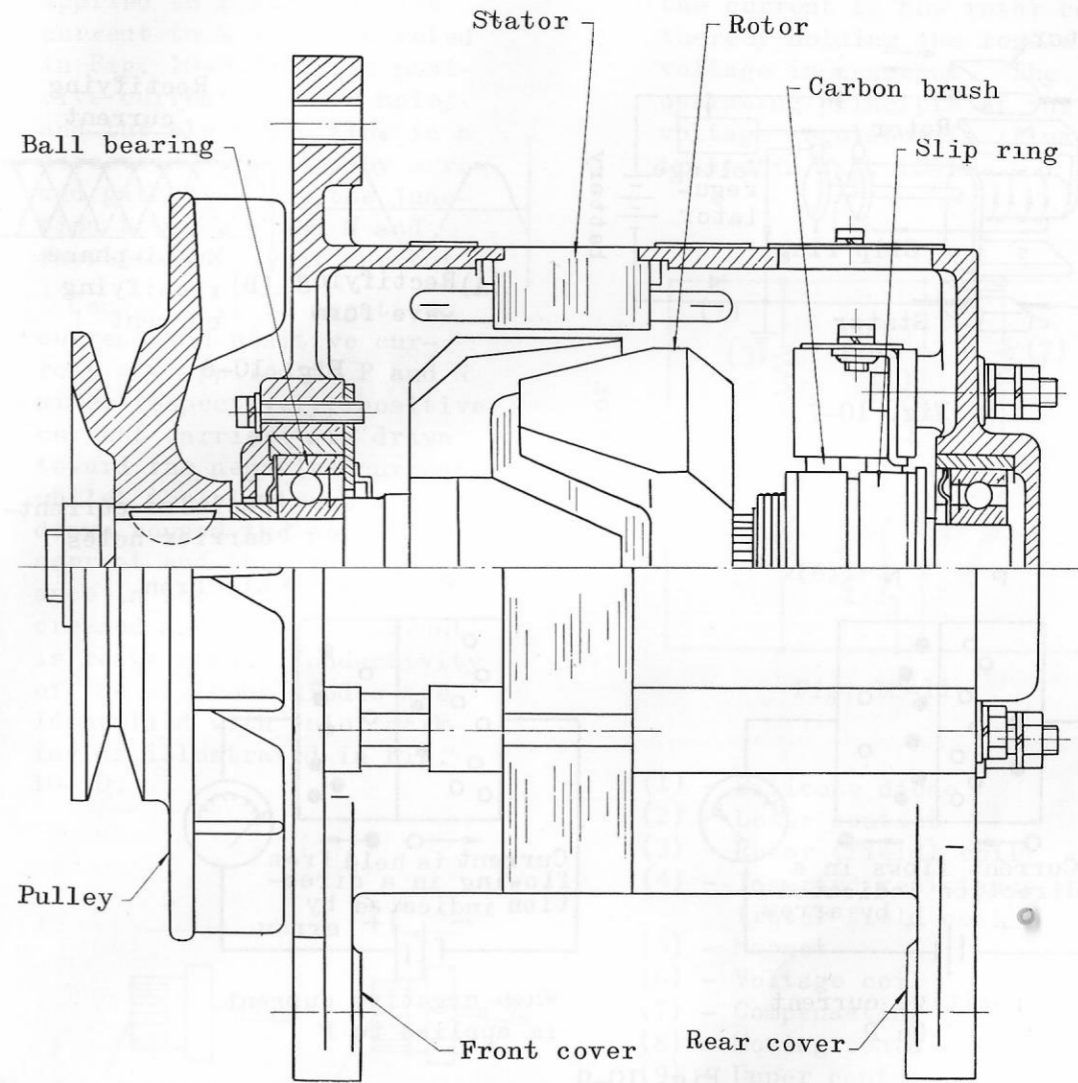

Fig. 10-6
(1) Alternator
The construction of the alternator model LT 123-16 is illustrated in Fig. 10-6. The alternator comprises a rotor, a stator, a front cover, a rear cover and a pulley. The rear cover is provided with six (6) silicone diodes which serves to rectify the current generated by the alternator to DC.
(2) Voltage regulator